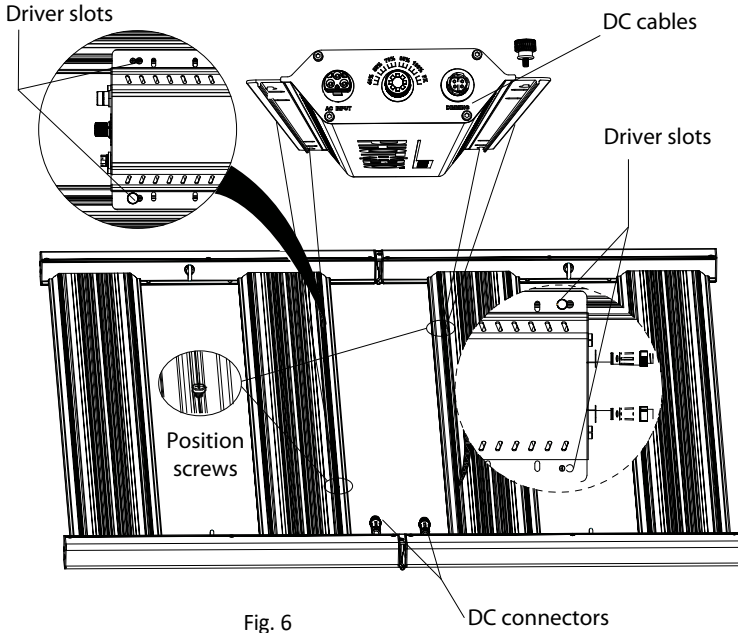

Fig. 6
- Place the driver on the track in the center of fixture (see Fig. 6). Driver orientation should be logo down. Face driver's DC cables' end to the DC connector side of fixture, as Fig. 6.